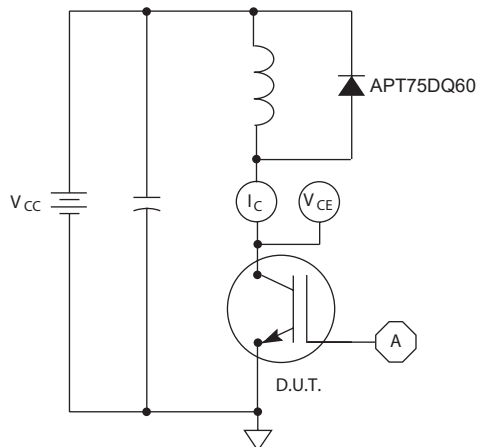

Figure 21, Inductive Switching Test Circuit
① Repetitive Rating: Pulse width limited by maximum junction temperature.
② For Combi devices,  $I_{ces}$  includes both IGBT and FRED leakages
③ See MIL-STD-750 Method 3471.
④  $E_{on1}$  is the clamped inductive turn-on energy of the IGBT only, without the effect of a commutating diode reverse recovery current adding to the IGBT turn-on loss. Tested in inductive switching test circuit shown in figure 21, but with a Silicon Carbide diode.
⑤  $E_{on2}$  is the clamped inductive turn-on energy that includes a commutating diode reverse recovery current in the IGBT turn-on switching loss. (See Figures 21, 22.)
⑥  $E_{off}$  is the clamped inductive turn-off energy measured in accordance with JEDEC standard JESD24-1. (See Figures 21, 23.)
⑦  $R_G$  is external gate resistance, not including  $R_{G(int)}$  nor gate driver impedance. (MIC4452)
⑧ Continuous current limited by package pin temperature to 100A.